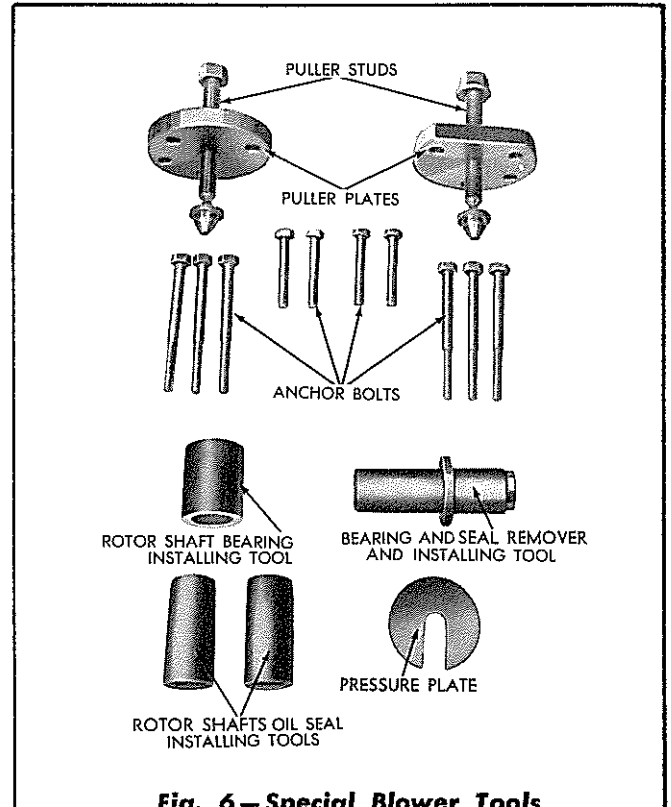
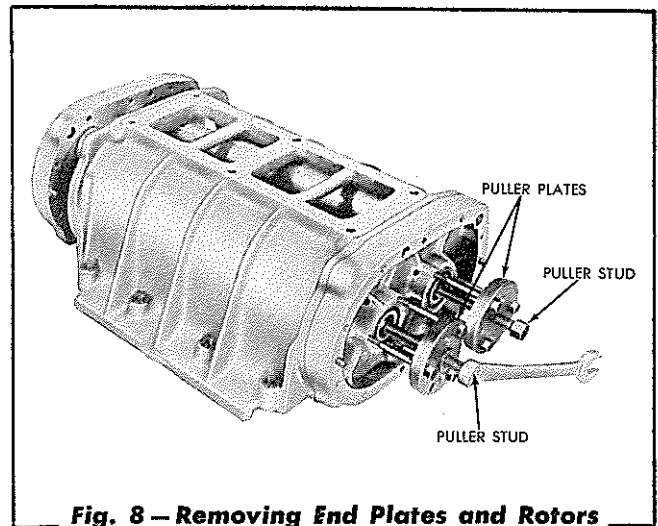

Fig. 6—Special Blower Tools
Fig. 8 – Removing End Plates and Rotors
5. Pull the rotor timing gears. *NOTE: These two gears must be pulled from the shafts at the same time, using the special puller studs and plates as shown in Fig. 6.*
6. Remove the three (3) capscrews from each bearing retainer and remove the retainers from the end plates.
- b. Using the same puller studs and puller plates used to pull the gears, install three anchor bolts in the three equally spaced holes of each plate as shown in Fig. 8, and screw the anchor bolts in the holes from which the bearing retainer cap-screws were removed, so that the faces of the puller plates are parallel with the face of the blower.
- a. Start each bearing into the end plate and tap the bearings into place with the bearing driver shown in Fig. 6. After the bearings have been installed, check the rotor-to-housing and the rotor-to-end plate clearances as described under "BLOWER TIMING."